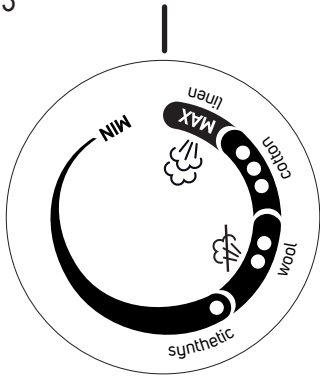

Fig.4
- ◆ The indicator lamp (B) will light up (Fig.4)
- ◆ Wait until the pilot light (B) has gone out which will indicate that the appliance has reached an adequate